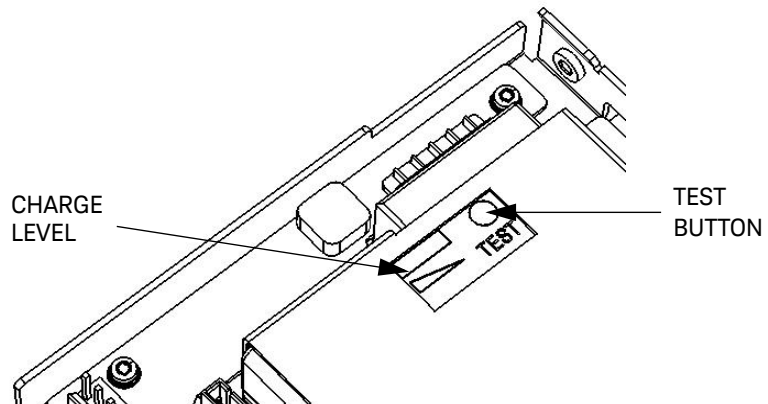

Figure 2-13 Test Button and Charge Indicator
- 7 On the Battery assembly, push and hold the white test button on the battery while observing the charge-level indicator. (See Figure 2-13). The charge level should be at least 25% to be functional. If the battery has been installed for over 24 hours with counter AC power connected the entire time, the charge level should be 75 to 100%. (Typically at least 25% after 1 hour charge.)